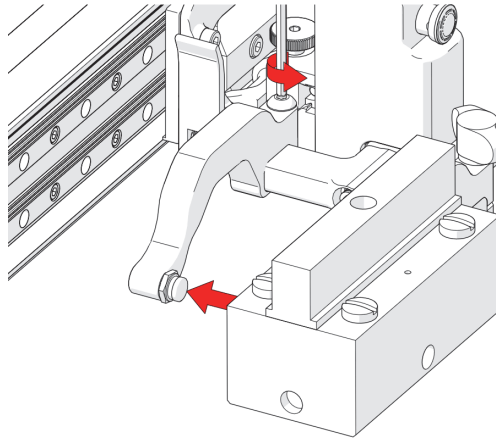

Figure 2-105 Adjust inner arm
3. Loosen the arm clamp screw (Figure 2-105 on page 116).
4. Place the wedge on the pivot button of the inner probe holder arm (see Figure 2-105 on page 116).